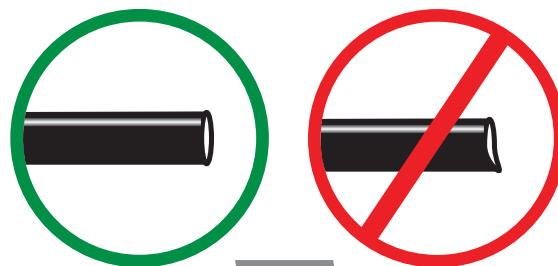

fig. 23
WHEN ADJUSTING HEIGHT UPWARDS, MAKE SURE THAT THE STRUT BODY ENGAGES ALL THE THREADS OF THE LOWER MOUNT (FIG. 23). WHEN ADJUSTING DOWNWARDS, MAKE SURE THERE IS ADEQUATE AIR SPRING CLEARANCE TO THE TIRE/WHEEL ASSEMBLY. CLEARANCE MUST BE CHECKED WITH SYSTEM FULLY DEFLATED AS WELL AS FULLY INFLATED TO ENSURE THAT NO RUBBING OCCURS. FAILURE TO MAINTAIN ADEQUATE CLEARANCE CAN RESULT IN AIR SPRING FAILURE AND WILL NOT BE COVERED UNDER WARRANTY.
- a. Check the air line connection by deflating the spring and removing the line by pulling the collar against the fitting and pulling firmly on the air line. Trim 1" off the end of the air line. Be sure the cut is clean and square (see Fig. 23). Reinsert the air line into the push-to-connect fitting.
2. If the preceding steps have not resolved the problem, call Air Lift customer service at (800) 248-0892.